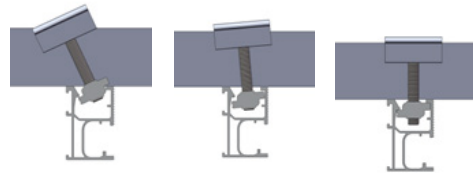

**Figure 19**
-Step 1 Place the first PV Module on the Rail according to your plan, and fix it in place using the End Clamps. Then fasten lightly with the Allen Key as shown in Figure 19 and 20.